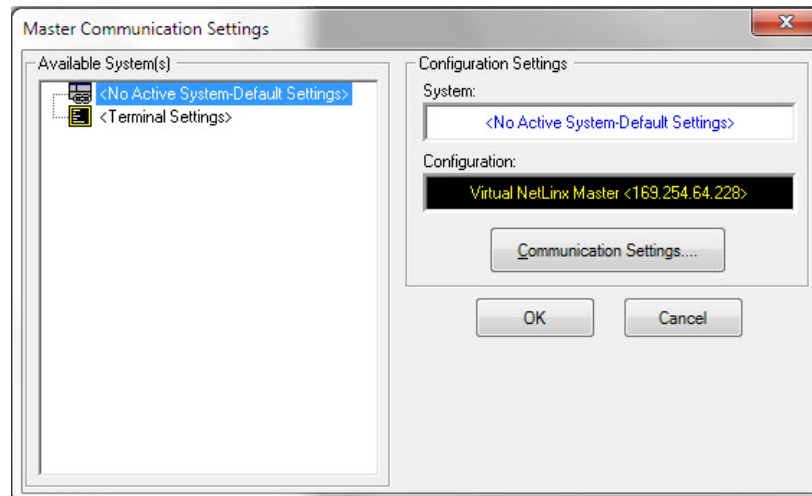

FIG. 30 Master Communications Settings dialog
2. In NetLinx Studio, select **Settings > Master Communication Settings** from the Main menu to open the *Master Communication Settings* dialog (FIG. 30).